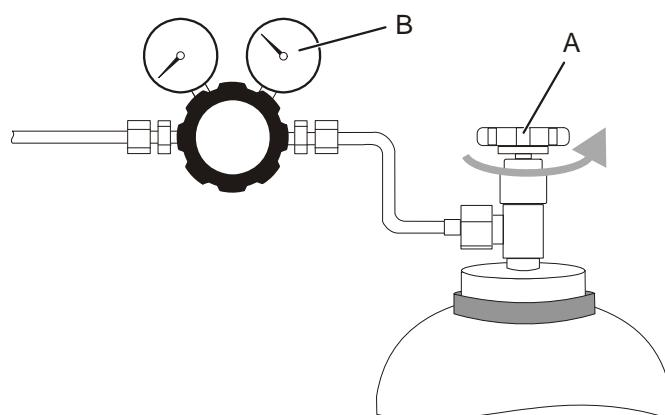

Figure 59: Opening gas cylinder valve
2. Open the valve on the gas cylinder (see Figure 59, A) by turning counter-clockwise.
3. Check the pressure gauge (see Figure 59, B) indicating the pressure in the gas cylinder to ensure that there is sufficient remaining pressure.